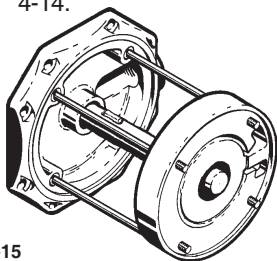

Figure 4-15
- e. With the "O"ring facing the motor end, slide the channel ring (#10) onto the guide rods with the water channel facing up. The large inlet opening should be on the same side as the pump inlet. Refer to figure 4-15. Push on firmly until the "O"ring fits inside the lip in the inlet cover (or diffuser ring). Refer to Figure 4-14.
- With the "O"ring facing the motor end, slide the channel ring onto the guide rods with the water channel facing up. The large inlet opening should be on the same side as the pump inlet. Refer to figure 4-15. Push on firmly until the "O"ring fits inside the lip in the inlet cover (or diffuser ring). Refer to Figure 4-14.